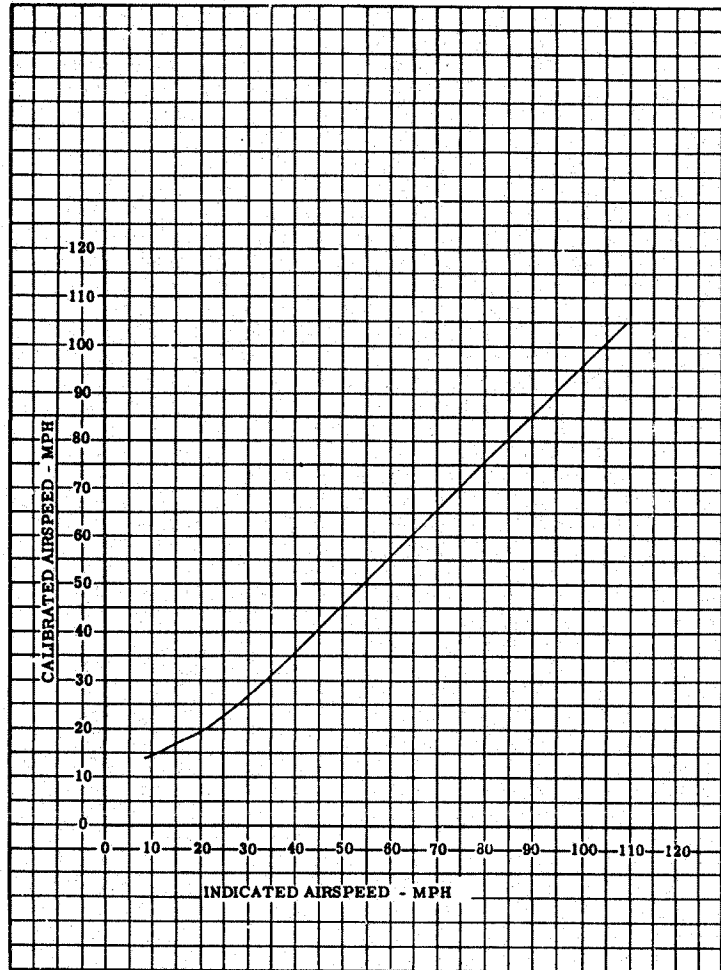

Figure 3. Airspeed Calibration
1. On unmodified aircraft serial numbers 0004 through 0058 with the 269A4600-11 airspeed indicator, the performance data in the basic FAA Approved Rotorcraft Flight Manual "a" configuration is applicable except for the Airspeed Calibration Diagram (see Figure 3).